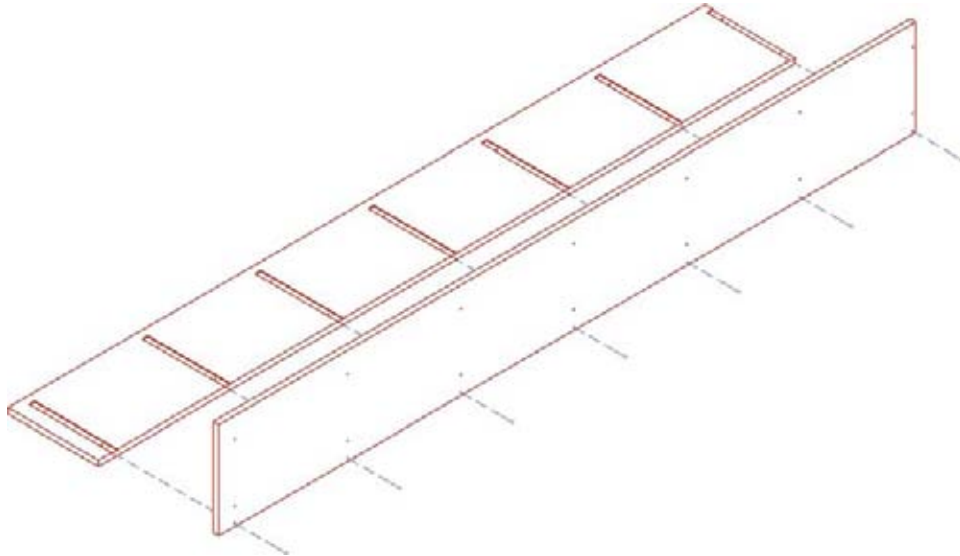

Figure 1
1. Locate panel B and place it on the floor with the shelf dados (or grooves) facing up (**Figure 1**).
2. Place panel A perpendicular to panel B with the shelf dados (or grooves) facing in (**Figure 1**).